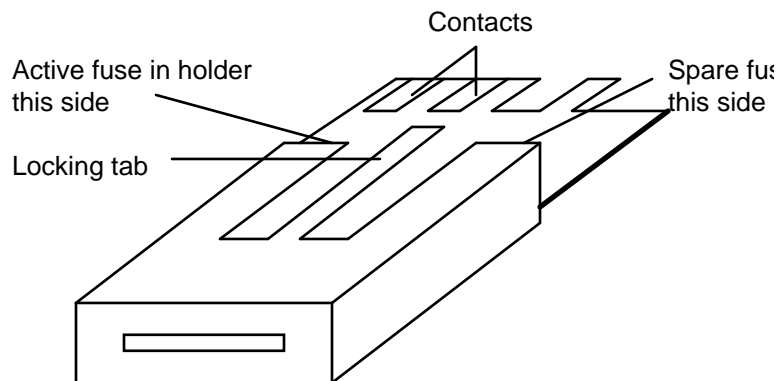

Figure 1-5
- Once the fuse draw has been completely removed from the instrument remove the **clear fuse tray** from the drawer by lifting upward slightly on the long narrow black locking tab. This will allow the fuse tray to be removed from the fuse draw. This tray contains the active fuse, left side (secured by holder) and spare fuse on the right side (if present). Refer to Figure 1-5.